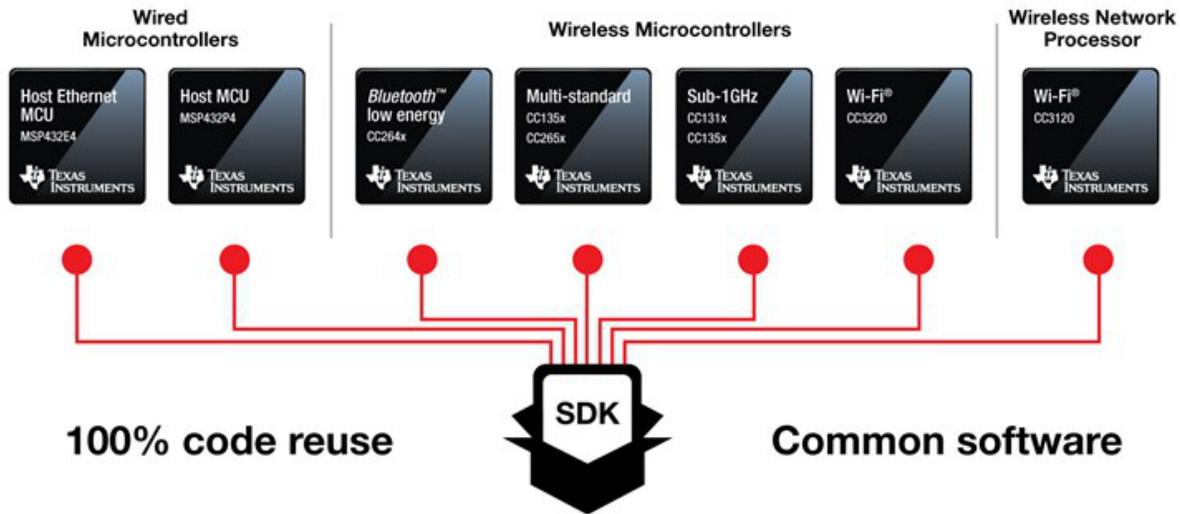

Figure 1. The Devices of the SimpleLink MCU Platform
- **More connectivity standards.** When the SimpleLink platform launched, it supported Wi-Fi®, *Bluetooth*® low energy, Sub-1 GHz, dual-band operation and host MCUs. The newest SimpleLink devices add support for Thread, Zigbee and multistandard (SimpleLink CC2652R), in addition to enhanced devices for Bluetooth 5 (SimpleLink CC2642R), Sub-1 GHz (SimpleLink CC1312R), multiband (SimpleLink CC1352R) and host MCUs (SimpleLink MSP432P4). The breadth of connectivity standards enables developers to create more scalable and future-proof products to keep up with the demands of the connected landscape. Figure 1 shows the complete portfolio of SimpleLink devices.